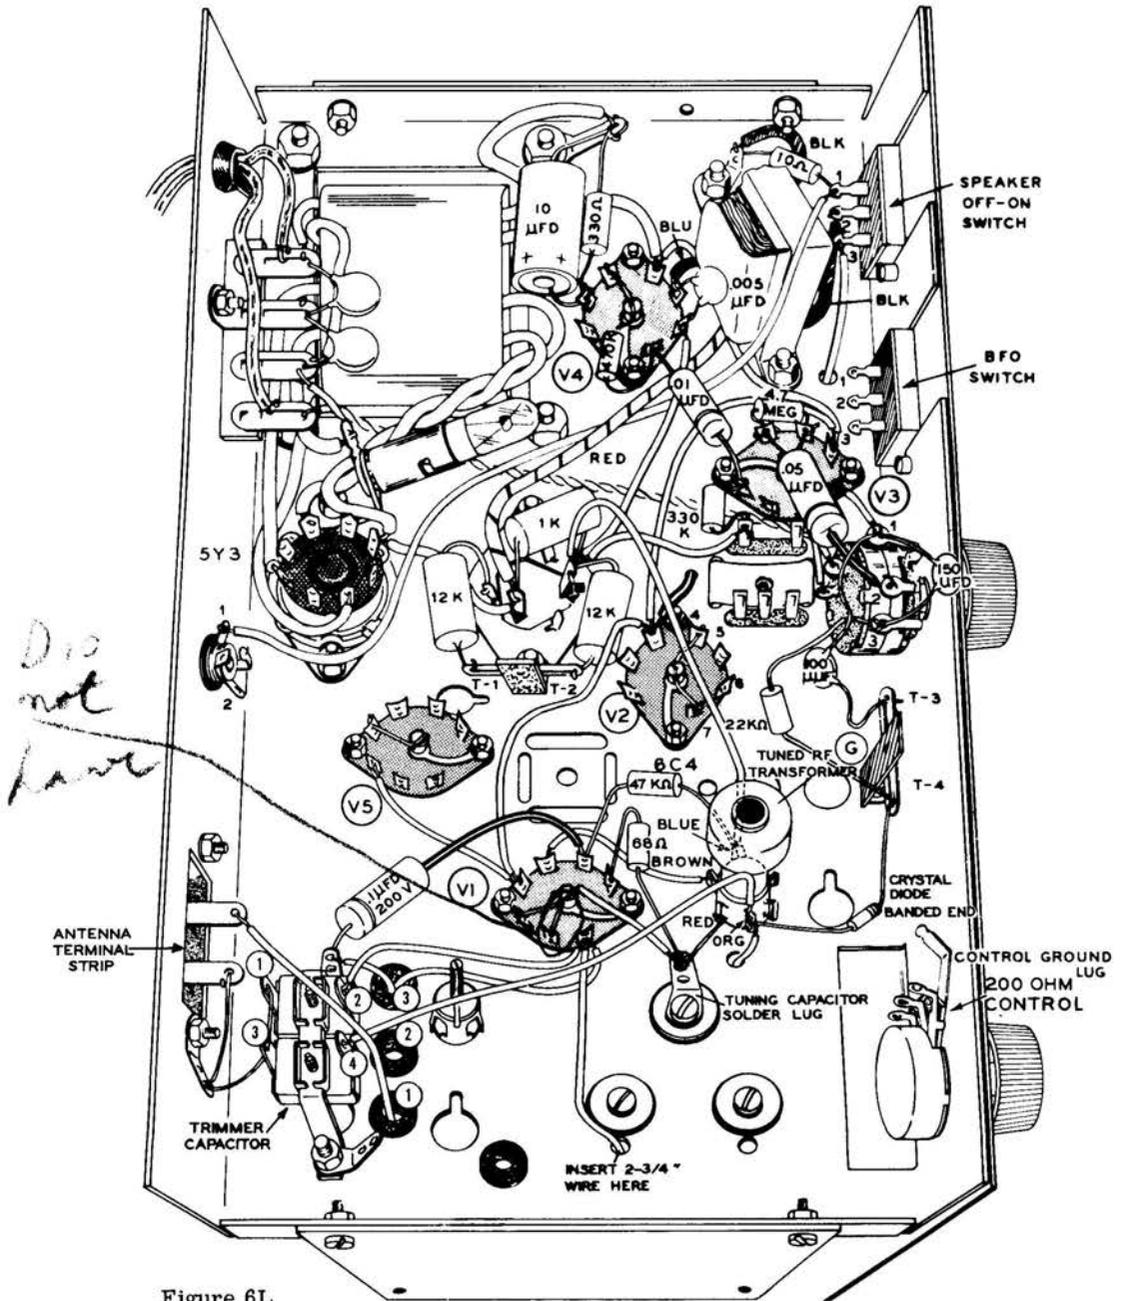

Figure 6L
Refer to Figure 6L for the following steps.
- (✓) Insert one stripped end of a 2-3/4" length of hookup wire through the hole (indicated in Figure 6L) located near the mounting screw for the tuning gang. Connect this wire to the tuning capacitor lug above this hole on top of the chassis (S).
- (✓) Connect the other end of this 2-3/4" wire to lug 1 of tube socket V1 (NS).
- (✓) Connect a short length of bare wire (remove all the insulation from a length of hookup wire) from lug 4 to the center post (S) of tube socket V5.
- (✓) Connect a 2-1/2" length of hookup wire from lug 4 of tube socket V1 (S) to lug 3 of tube socket V5 (S).
- (✓) Connect a length of bare wire from lug 2 (S) to the center post (S) of tube socket V1.